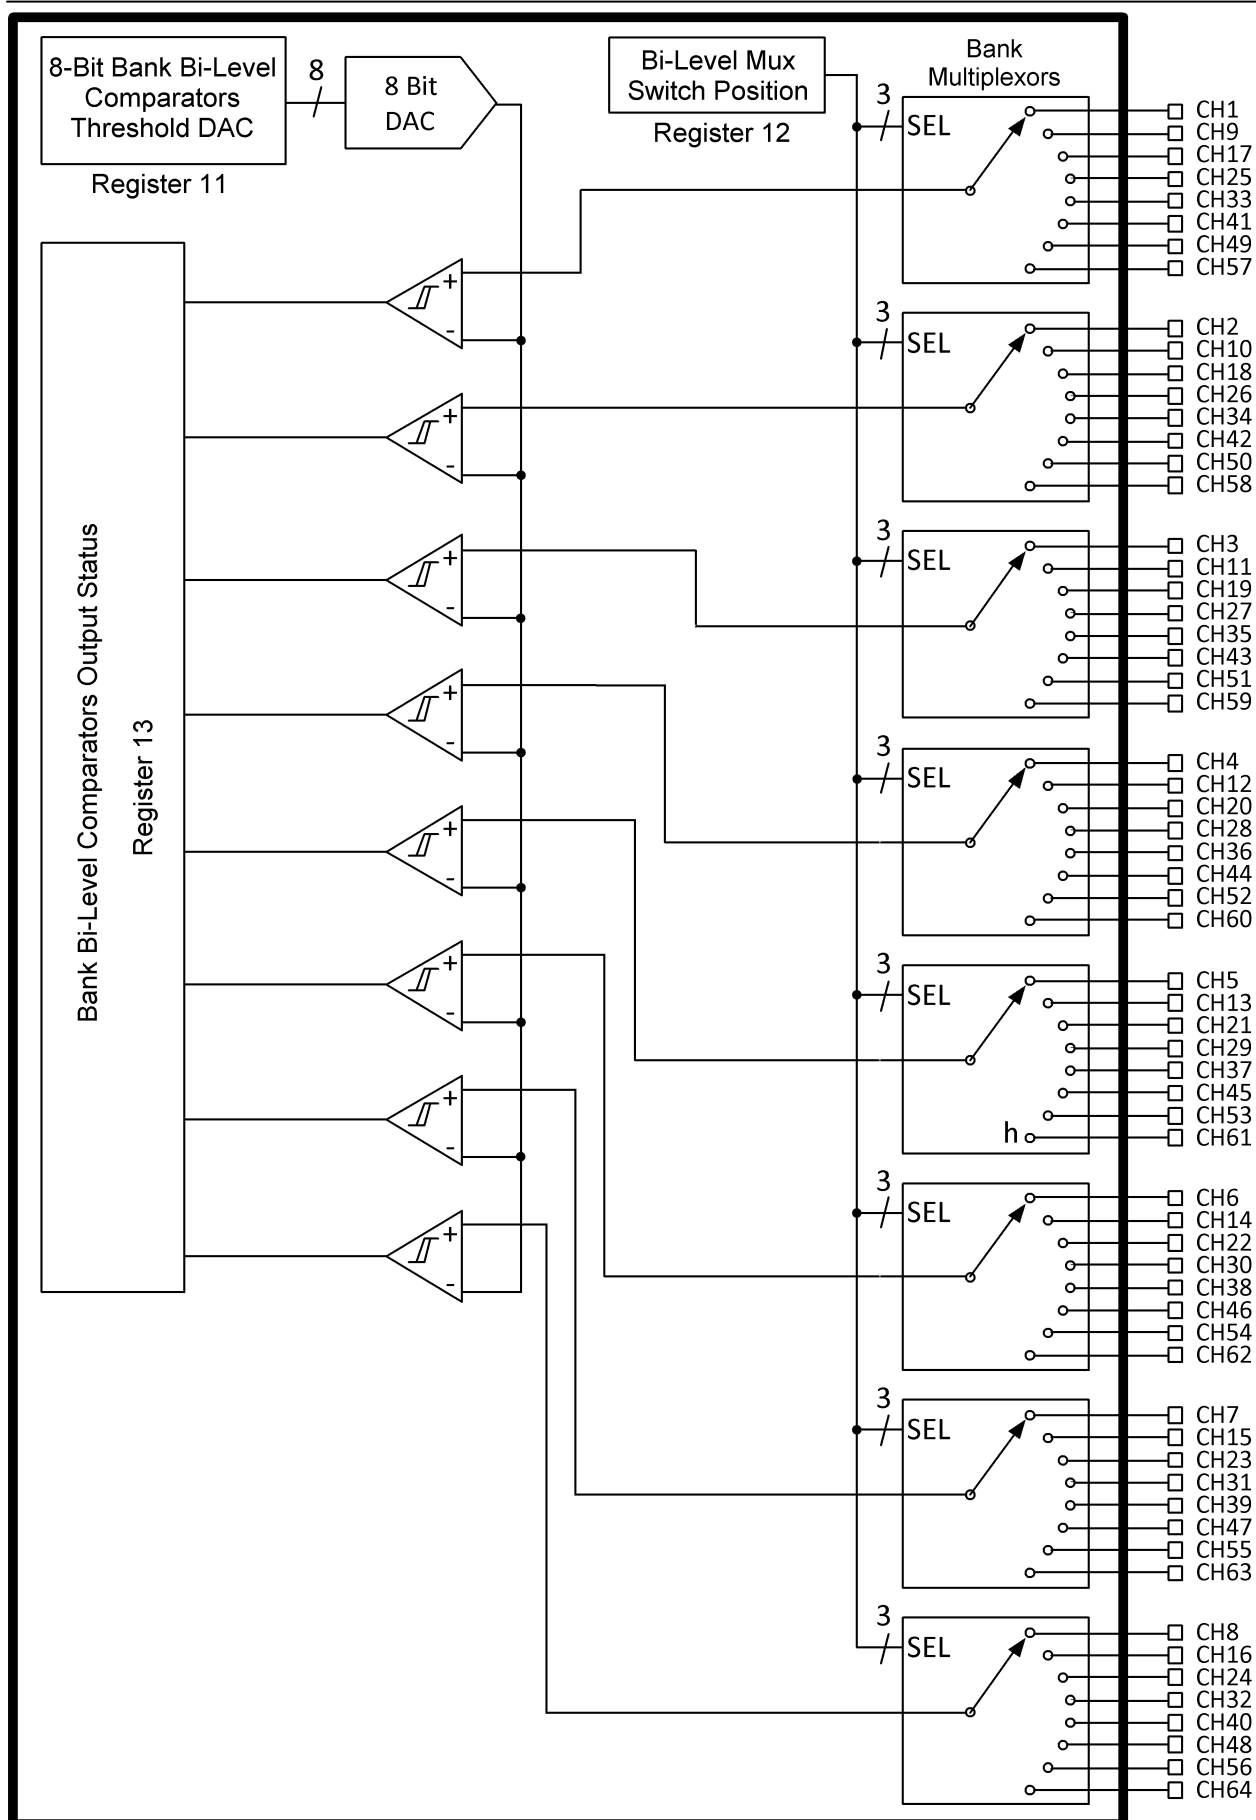

Figure 6. Bank Bi-Level Comparators Block Diagram
- The 8 bank bi-level comparators' inputs connect to a configurable combination of the 64 analog inputs CH1 to CH64 (see block diagram Figure 6 on page 24, and section 16 on page 26). The bank comparator outputs appear in the Bank Bi-Level Comparators Output Status register 13 (Table 33 on page 55).
Figure 6 on page 24 shows a block diagram of bank bi-level comparators operating with register 12's En Sw bit D3 = 1. Here, the 8 bank multiplexers are controlled by a common 3-bit selection input.
When Bank Bi-Level Comparators Input Selection register 12's En Sw bit D3 = 0, the bank bi-level comparators are connected to inputs selected by Mux Channel Select registers 3 and 4 (Table 19 on page 41, Table 22 on page 44). In this mode, the 8 bank multiplexers are controlled individually, not by a common 3-bit selection input as in the case for Figure 6. Since the output of each of the 8 bank multiplexers routes to a bank bi-level comparator input, it is necessary to follow the ASM multiplexer input selection logic to determine the bank bi-level comparator inputs.